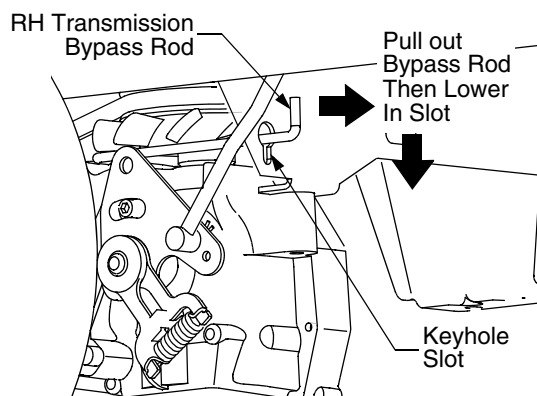

Figure 26
- From just in front of the two rear tires, locate the transmission bypass rods. See Figure 26.